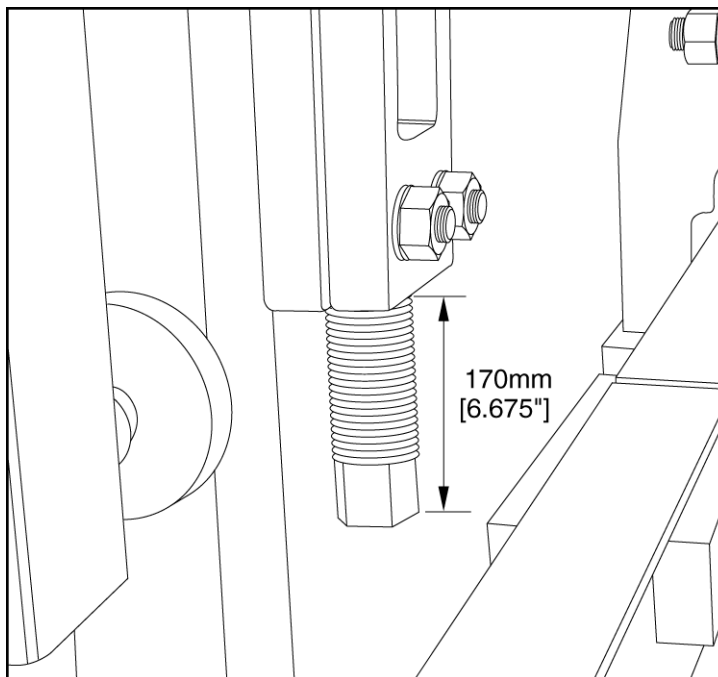

Figure 4.44 UPPER HEIGHT STOPS
4.3.6 Adjust the upper height stops (**part #047356**) so that **170mm [6.675"]** extend past the bottom of the castings (figure 4.44).